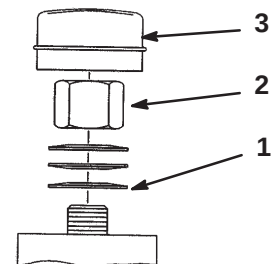

Figure 38
2. Remove dust cap from castor and tighten lock nut (Fig. 38).
3. Tighten until spring washers are flat and then back off a 1/4 turn to properly set the pre-load on the bearings (Fig. 38).
Important Make sure spring washers are installed correctly as shown in figure 38.